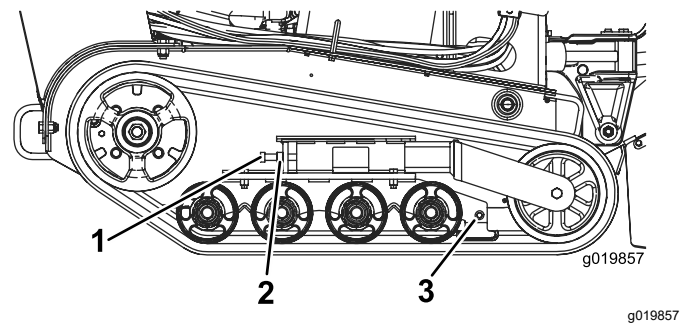

Figure 46
3. Loosen the jam nut on the track tensioning bolt and the clamp bolts on the tension arm (Figure 46).
4. Torque the tensioning bolt to 32.5 to 40 N·m (24 to 30 ft-lb) to tighten the track (Figure 46).
4. Back out the tensioning bolt and jam nut (Figure 46).